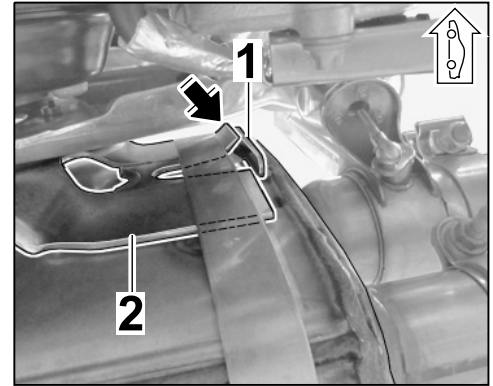

Figure 19
- 5.9 Position main silencer with lock ⇒ *Figure 19*
-1- on the main silencer holder ⇒ *Figure 19*